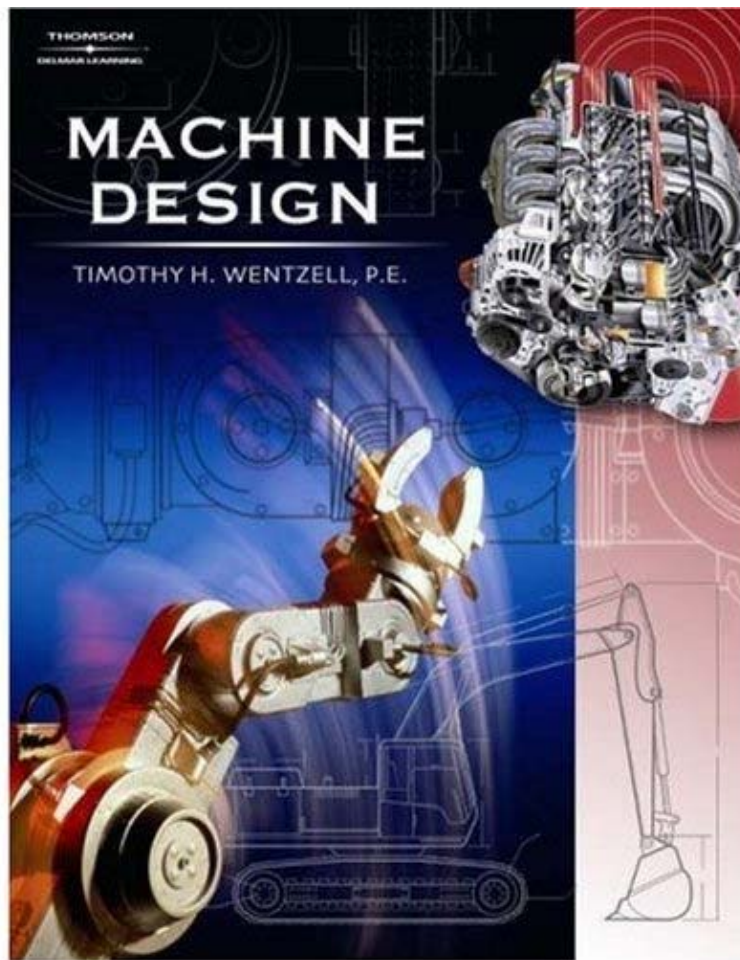

Figure 8C. Machine Design textbook.
**** Wentzell, T. H. (2004). *Machine Design*. USA: Thompson Delmar Learning. ISBN No. 140180517-5 (Figure 8C).